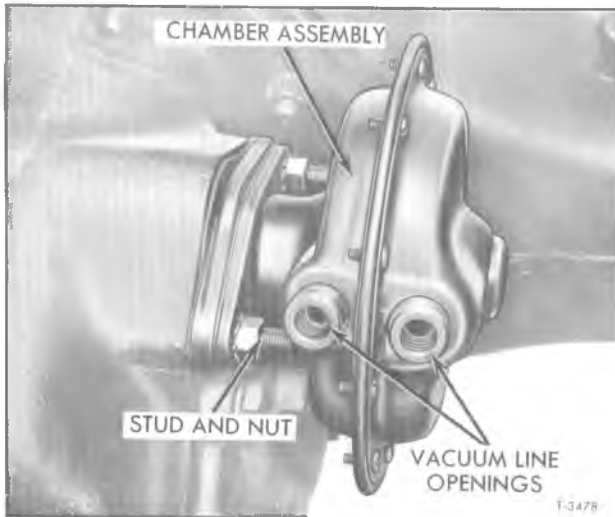

Figure 27—Two-Speed Axle Vacuum Shift Chamber Installed (Rockwell)
4. Remove two nuts and lock washers from studs (fig. 27) attaching chamber mounting flange to mounting sleeve and carrier. Remove chamber assembly.
5. Force push rod in to relieve spring load, then remove snap ring (18) from inside of piston rod. Pull push rod and spring assembly from piston rod.
2. Position push rod and spring assembly into piston rod. Compress spring sufficiently to install snap ring (18).
4. Secure plates together with bolt, locking plate, and nut (19). Make sure that diaphragm is properly located, then tighten nut just enough to form a vacuum-tight seal.
5. Install chamber inner shell with flange over studs (fig. 27). Install lock washers and nuts, tighten nuts securely.